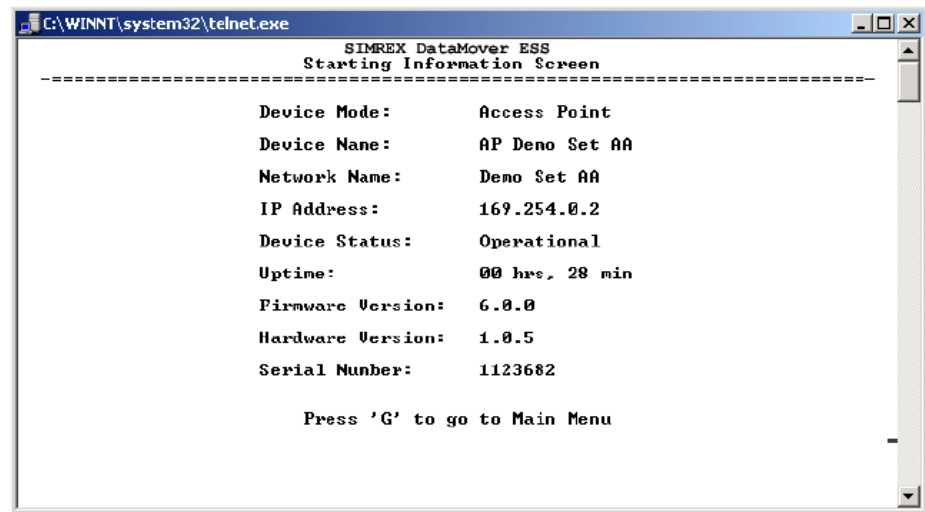

Figure 3-1. View of MS with a text-based program—
Each of these sections has a focus that is reflected in its heading. The section you are now reading provides information on connecting to the Management System, how to navigate through it, how it is structured, and how to perform top-level configuration tasks. Figure 3-1 on the following page shows a top-level view of the Management System (MS).